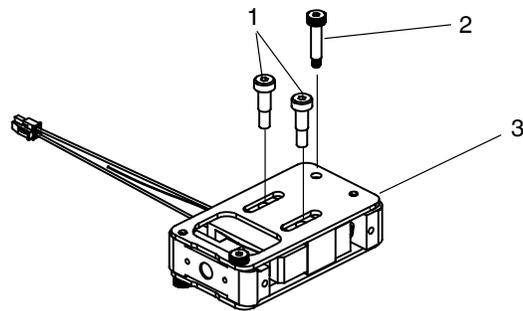

Figure 7-12 Frame Plate Disassembly
2. Place the applicator on a table as shown in Figure 7-12.
3. Use a 2.5 mm hex driver to remove the top shoulder screw (2) from the frame plate (3).
4. Use a 3 mm hex driver and fingers to remove the two stroke adjustment screws (1) from the frame plate.